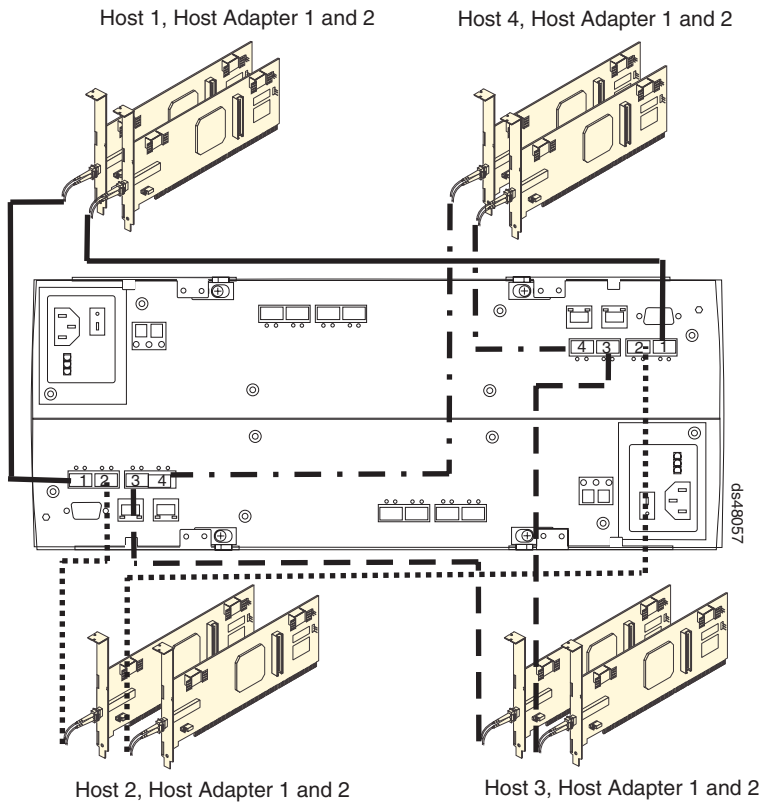

Figure 59. Cabling diagram for four redundant host connections
- Repeat steps 1 on page 79 and 2 on page 79 for each additional redundant host connection. You can create a maximum of four redundant host connections, as shown in Figure 59.
Note: Figure 59 shows that the DS4800 host ports are connected to four sets of FC host bus adapters (HBAs). You can replace one or all of these sets of FC HBAs with FC switches as required.